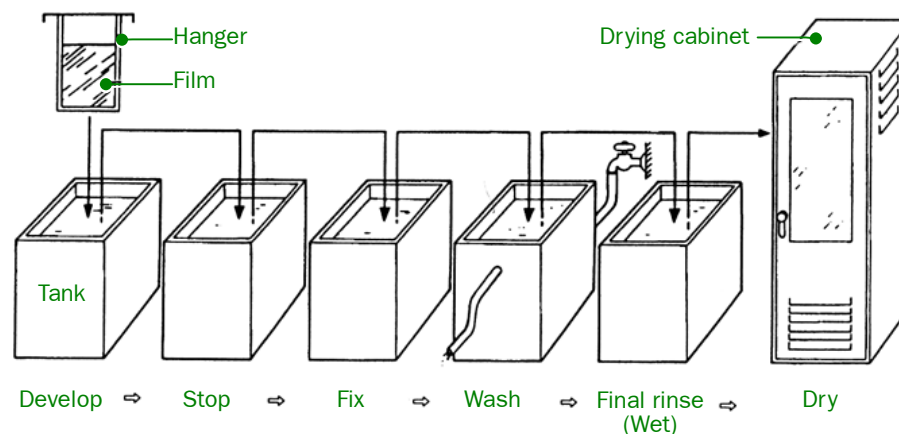

Fig. 5.52 Film processing
4. Immerse the film in developer (at $20 \pm 0.5^\circ\text{C}$); leave it in until the exposed image becomes sufficiently visible usually three or four minutes (☞ Fig. 5.52).